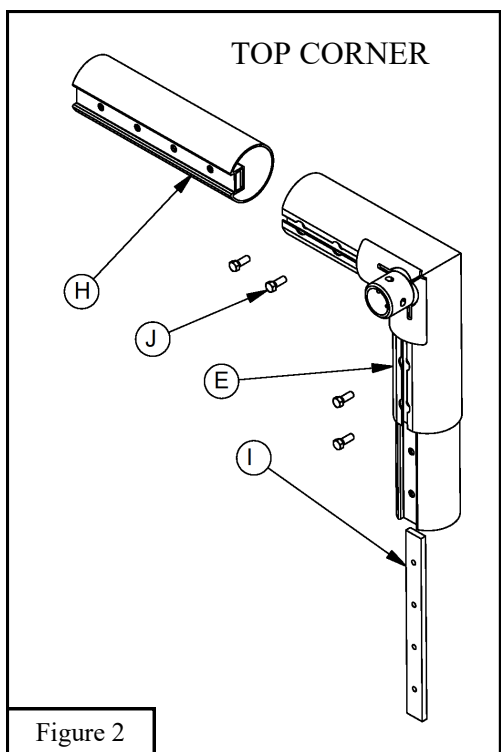

Figure 2
2. Attach the four *Top Corners* (E) to the *Short Inner Connecting Tubes* (H) using the *Connecting Bars* (I) and the *3/8" X 1" Hex Bolts* (J). See figure 2.